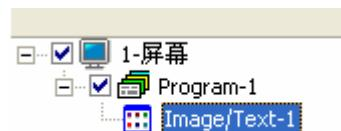

figure 3-16
- ◆ Images& text : click the Images & text button, add new images& text area in the current screen, as shown in figure 3-16, set the images &text attributes as your require. More details about program attributes setting ,please check in “4.3 Images& text attributes”